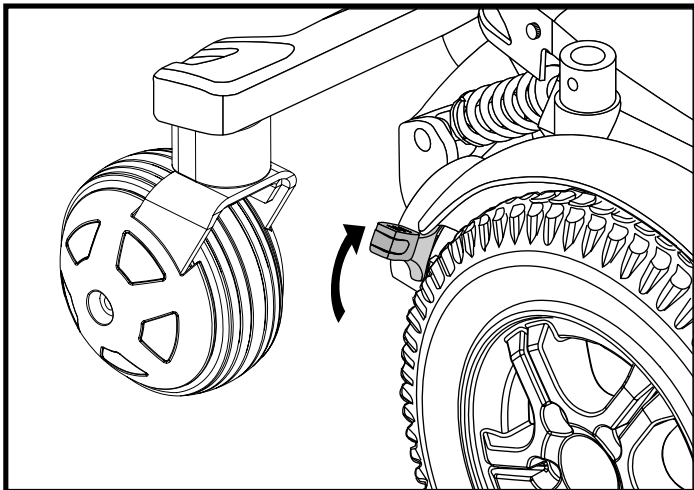

Figure 8. Drive Mode (Drive Engaged)
1. Pull up both manual freewheel levers to engage the drive motors (drive mode). See figure 8.